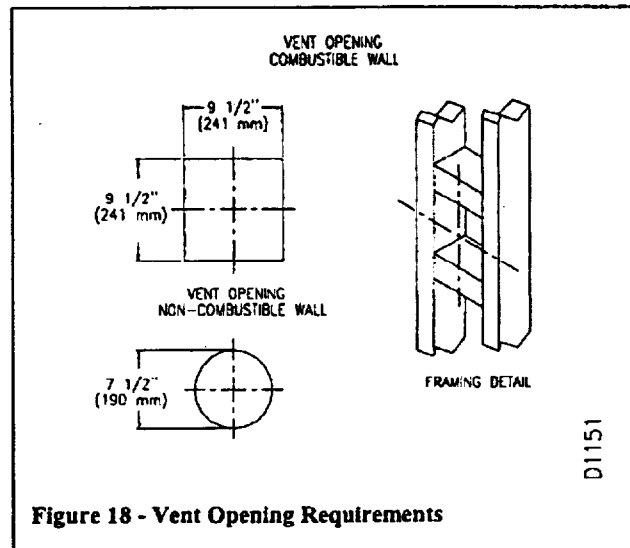
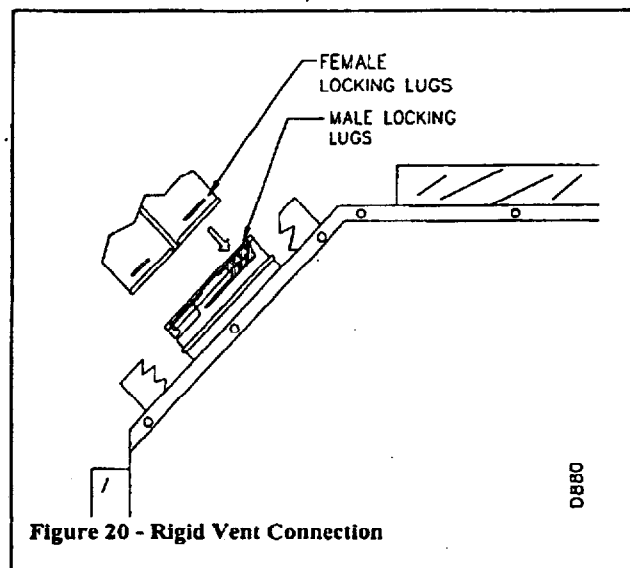
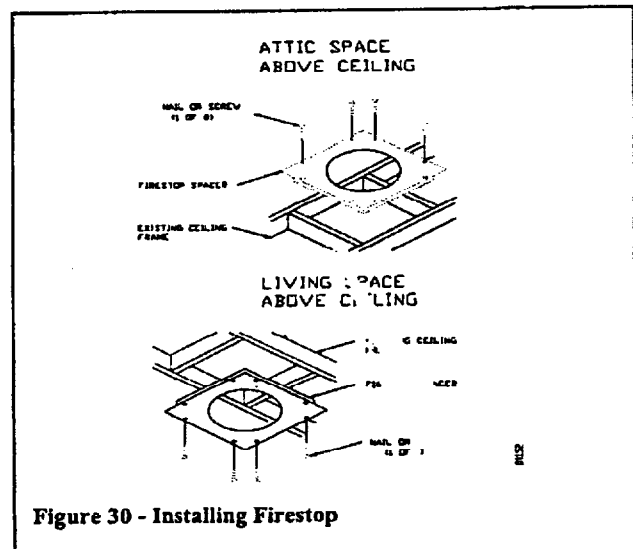

Figure 18 - Vent Opening Requirements
Figure 20 - Rigid Vent Connection
Figure 30 - Installing Firestop
Flexible vent pipe must be installed with spacer springs every 12" and especially near each bend (See Figure 18). Make the 4" inner pipe connection to the unit with the clamp provided. Install the spacer springs by looping them around the 4" pipe and connecting at both ends. Slide the 7" outer pipe over the springs and inner section and continue adding sections in this manner. All connections need a minimum of 1 1/4" (32mm) overlap, must be clamped tightly and sealed with high temperature silicone sealant as specified in the second warning statement on page 7.
3. Attach the vent pipe assembly to the fireplace using twist-lock connections for rigid pipe or clamp, method for flex pipe. See figures 20 and 21, on page 9 and 10. Set fireplace in front of its permanent location to insure minimum clearances. Mark the wall for a 9 1/2" x 9 1/2" (242mm x 242mm) square cut through combustible exterior wall or a (7 1/2" (190mm) diameter hole for non-combustible material such as masonry block or concrete. See figure 18, on page 9. The center of the hole should line up with the centerline of the rigid vent pipe. Frame if necessary to support outer vent terminal.
1. Cut a 9 1/2" hole in the ceiling using the locating hole as a center point. The opening should be framed to a 9 1/2" x 9 1/2" (241mm x 241mm) inside dimensions, as shown in Figure 18 on page 9 using framing lumber the same size as the ceiling joists. If the area above the ceiling is an insulated ceiling or a room, nail firestop from the topside. This prevents loose insulation from falling into the required clearance space. Otherwise, install firestop below the framed hole. The firestop should be installed with the flanges set into the framing and secured with no less than three nails per side (see figure 30).
3. Cut a hole in the roof using the locating hole as a center point. (Cover any exposed open vent pipes before cutting a hole in the roof). The 9 1/2" x 9 1/2" hole must be measured on the horizontal; actual length may be larger depending on the pitch of the roof. There must be a 1" clearance from the vent pipe to combustible materials. Frame the opening as shown in Figure 18, on page 9.